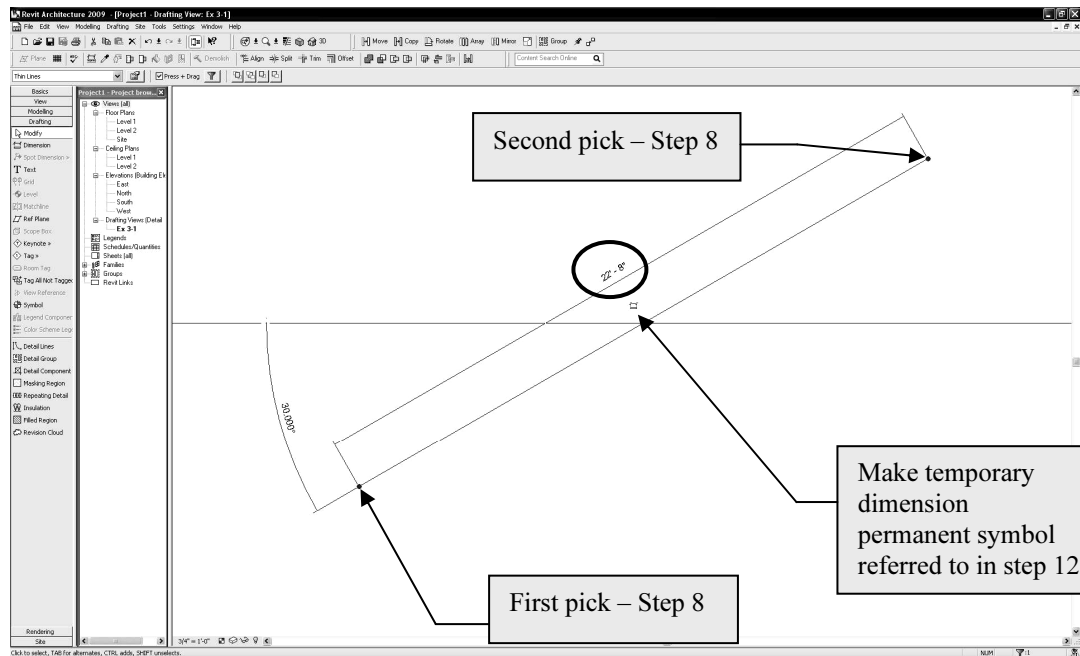

Figure 3-1.6 Your first detail line!
NOTE: Do not drag or hold your mouse button down; just click (Figure 3-1.6).
14.With the diagonal line still selected, click the “make this temporary dimension permanent” symbol near the dimension (Figure 3-1.6).